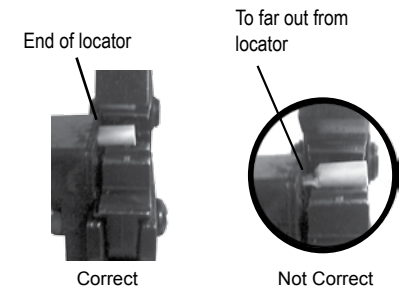

Figure 2
- Place contact on lower die with the contact wings or crimp barrel crease facing towards the upper die (See Figure 1). Press the contact fully back into the locator until the wire stops or the crimp barrel end is slightly inside the locator (See Figure 2).